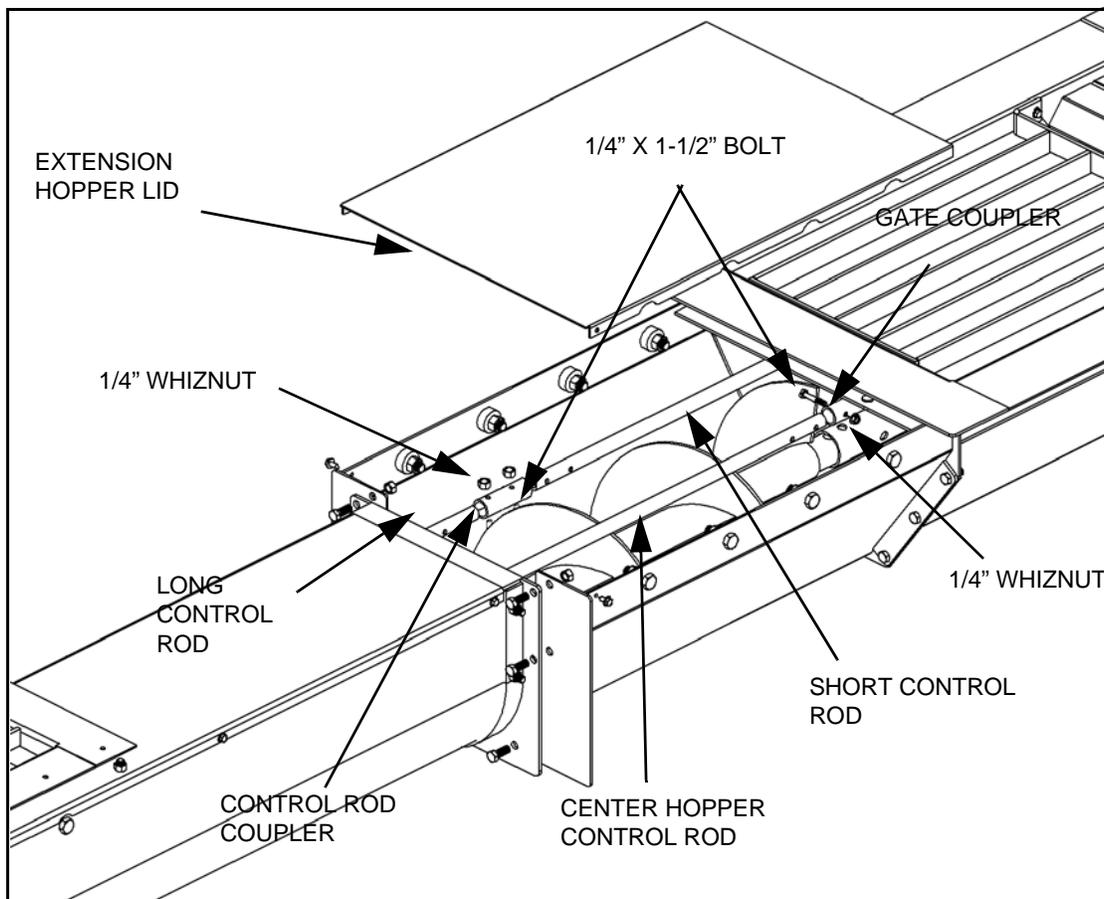

Figure 3.7
1. Insert the center hopper control rod to the gate coupler and secure with two 1/4" x 1-1/2" bolts and whiznuts. (See Figure 3.7.)
2. The shorter length of control rod is for the lower gearbox (on center hopper). Couple the short control rod to the long control rod with a control rod coupler and two 1/4" x 1-1/2" bolts and whiz nuts. (See Figure 3.7.)
- Mount 1-1/4" bearing with 4-bolt flanges (1) to power-head (2) with four 1/2" x 1-1/2" bolts (3) and 1/2" locknuts (4) (see Figure 3.7).